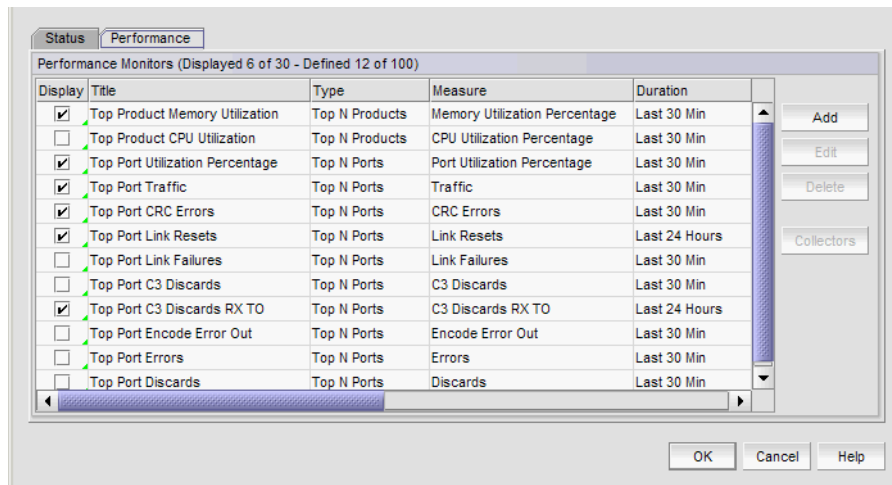

FIGURE 56 Customize Dashboard dialog box, Performance tab
- Click the **Performance** tab (Figure 56).